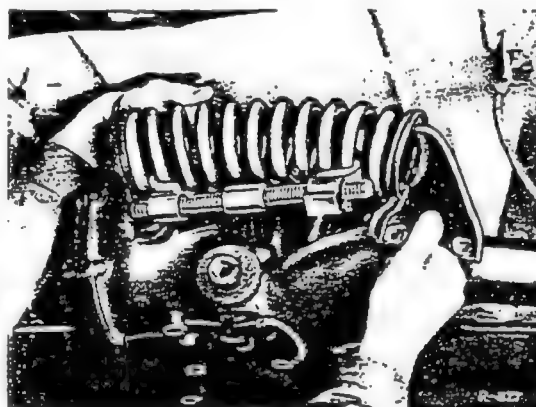

Fig. 32-7/2
4. Check both rubber rings (2) and (4) and the bracket (5) (Fig. 32-7/1).